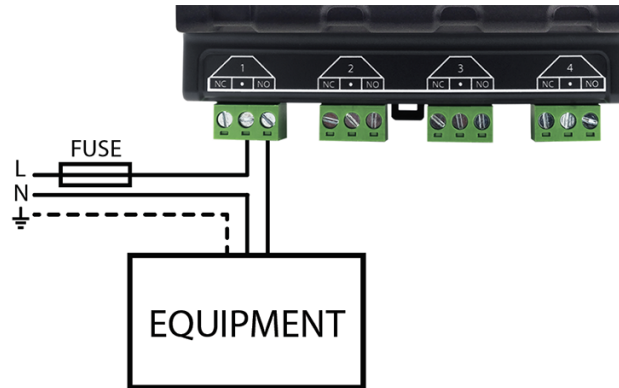

Figure 3.4: Relay wiring
**Important:** A fuse should always be supplied in the line from the power supply to the relay. See figure 3.4.